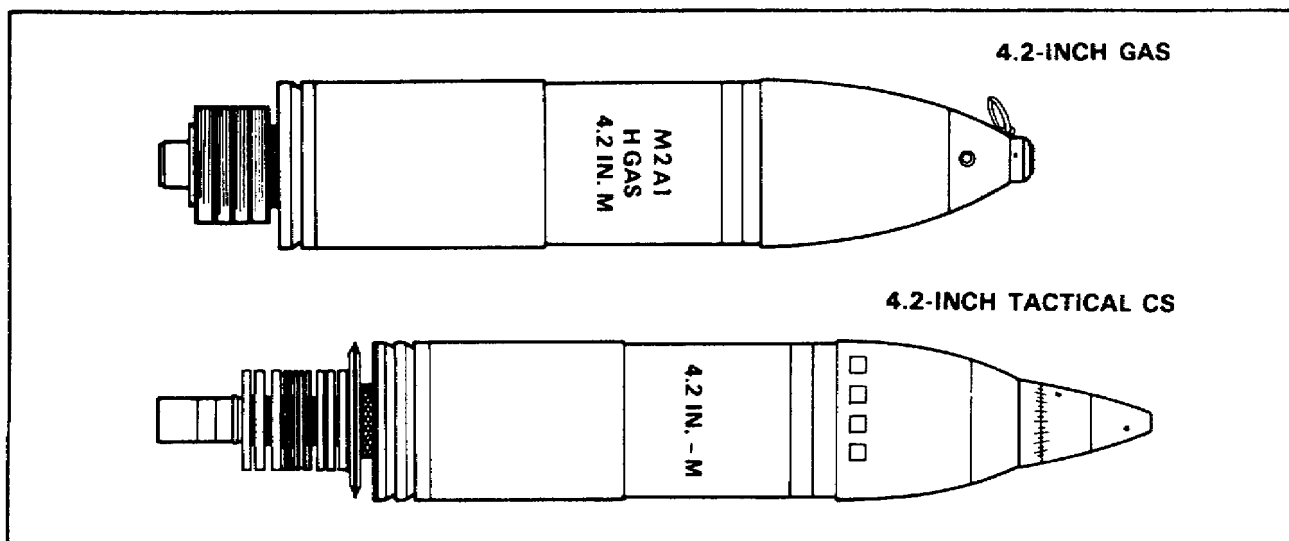

Figure 34. 4.2-Inch Chemical Mortar Cartridges.
4.2-Inch Chemical Mortar Ammunition. There are two types of 4.2-inch cartridges designed specifically to disperse a toxic or irritant chemical agent. See Figure 34. The 4.2-inch gas cartridge is filled with a toxic chemical agent, has a high-explosive burster similar to the smoke-white phosphorous cartridge, and has a point-detonating fuze. It functions on impact; the burster detonates, rupturing the projectile body and dispersing the chemical agent. This cartridge has a color code of gray with a dark-green band and dark-green markings. The 4.2-inch tactical CS (CS-TAC) cartridge is filled with four separate canisters containing a flammable CS (tear gas) mixture. It uses a time fuze that functions at a predesignated time after firing. The fuze ignites a black-powder expelling charge that ignites and expels the CS canisters from the base. This cartridge is color-coded gray with a dark-red band and dark-red markings.